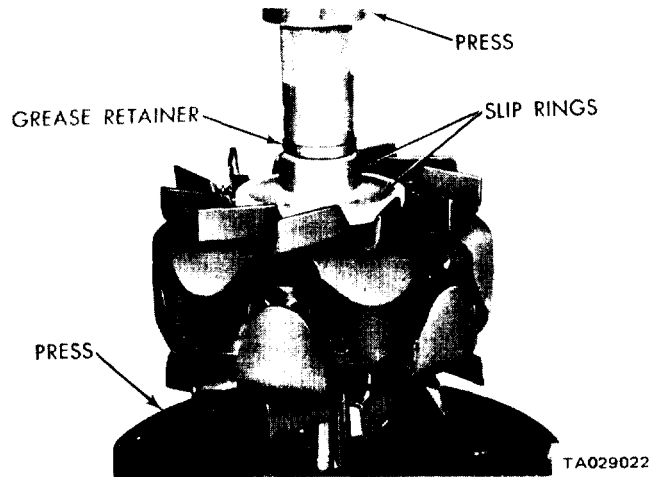

Figure 14-13. Installing Grease Retainer.
a. Position the grease retainer on the rotor shaft and press the retainer on the shaft (figure 14-13). The plastic retainer is properly positioned when the inner bore of the installer tool bottoms on the rotor shaft.